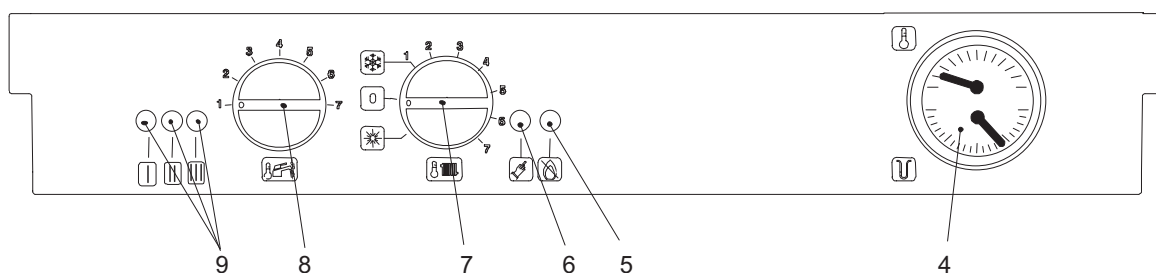
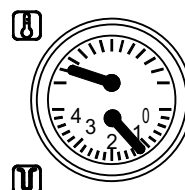

Figure 3.2
Figure 5.1
Three lights (9 in Fig. 3.2) give detailed indication regarding the operation of the boiler. The following table gives the relationship between each of the possible light combinations and their meaning.
- Ensure that the Central Heating circuit is regularly filled with water checking that the pressure indicated on the temperature and pressure gauge (4 on figure 3.2) is not lower than 1 bar (14.5 psi) as shown on figure 5.1.
- The temperature and pressure gauge (Fig. 5.1 on page 11) will allow you to check that the set temperature is obtained.
- You should check that the pressure on the temperature and pressure gauge (Fig. 5.1 on page 11) is not below the correct setting.
#### If the pressure on the temperature and pressure gauge (Figure 5.1 on page 11) has gone down:
- Check on the temperature and pressure gauge (figure 5.1 on page 12) that the pressure in the central heating circuit is not close to 3 bars (43.5 psi). In this case, temperature rise in the circuit can cause the pressure relief valve to open.